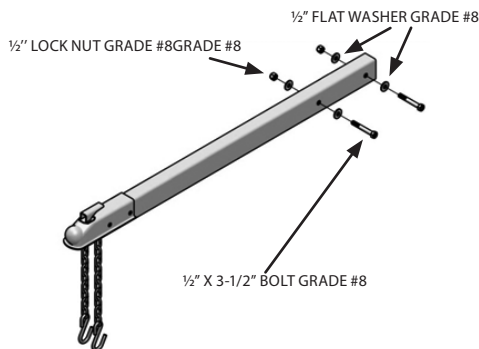

Figure 5-2
5. The hardware is located on the front wire mesh tray. Mount tongue hardware through the tongue support angles and tongue tube and tighten. See Figure 5-2.